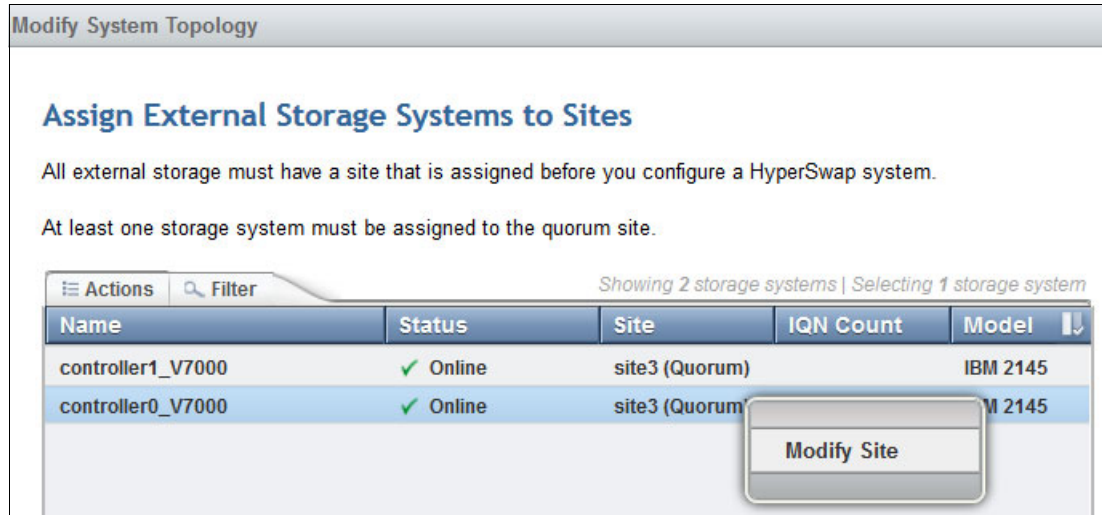

Figure 11-17 Storage controller site attributes
6. Assign the site attributes to the external storage controllers (Figure 11-17).